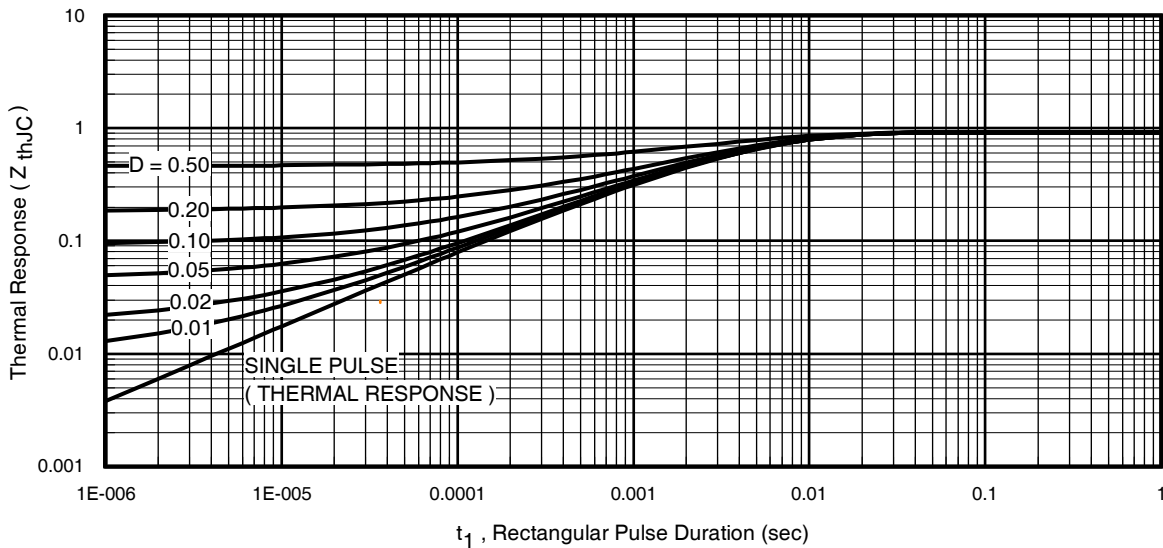
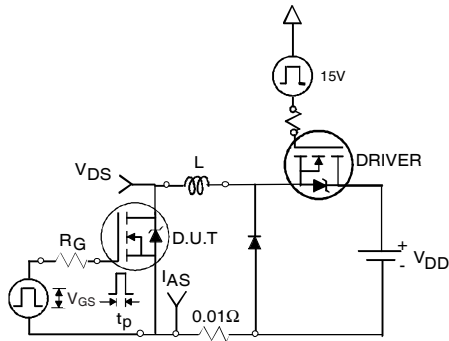

Fig 11. Maximum Effective Transient Thermal Impedance, Junction-to-Case
Fig 12a. Unclamped Inductive Test Circuit
| I_{AR} | Avalanche Current ④ | See Fig.12a,12b,15,16 | A |
- ① Repetitive rating; pulse width limited by max. junction temperature. (See fig. 11).
- ② Limited by T_{Jmax} , starting $T_J = 25^\circ\text{C}$, $L = 0.27\text{mH}$, $R_G = 25\Omega$, $I_{AS} = 35A$, $V_{GS} = 10V$. Part not recommended for use above this value.
- ③ $I_{SD} \leq 35A$, $di/dt \leq 380A/\mu s$, $V_{DD} \leq V_{(BR)DSS}$, $T_J \leq 175^\circ\text{C}$.
- ④ Pulse width $\leq 1.0\text{ms}$; duty cycle $\leq 2\%$.
- ⑤ $C_{oss\ eff.}$ is a fixed capacitance that gives the same charging time as C_{oss} while V_{DS} is rising from 0 to 80% V_{DSS} .
- ⑥ Limited by T_{Jmax} , see Fig.12a, 12b, 15, 16 for typical repetitive avalanche performance.
- ⑦ This value determined from sample failure population. 100% tested to this value in production.
- ⑧ This is applied to D²Pak, when mounted on 1" square PCB (FR-4 or G-10 Material). For recommended footprint and soldering techniques refer to application note #AN-994.
3. Equation below based on circuit and waveforms shown in Figures 12a, 12b.
$Z_{thJC}(D, t_{av})$ = Transient thermal resistance, see figure 11)